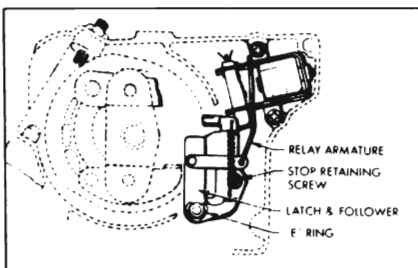

Figure 10-124—Disassembly of Relay and Latch
2. Disconnect coil spring, remove "E" ring and lift the latch and follower assembly off the pivot pin and relay armature. See Figure 10-124.